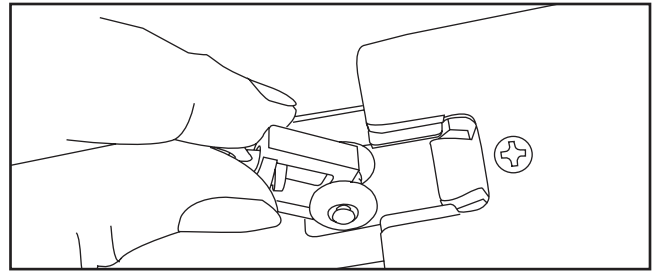

Figure 2.3.2 - Add or remove pin carriers
3.2 - For loose carriers, insert or remove carriers until the correct amount remain in the track. Center draw applications may require adding or subtracting carriers from each side. See Figure 2.3.2.